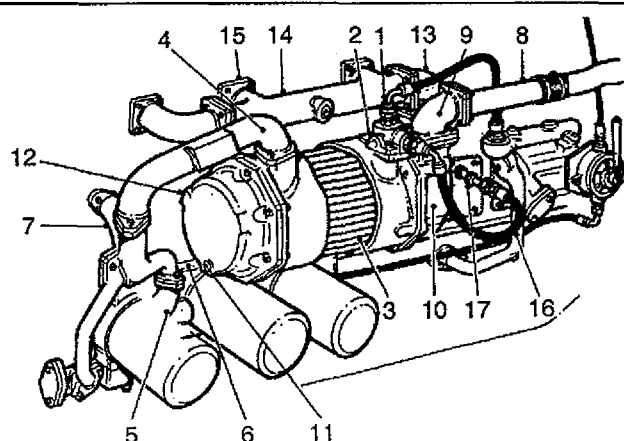

Fig. 4L
Lubricating oil is drawn from the engine sump by a lobe rotor pump mounted on the suspension plate on the 'A' bank side of the engine and driven from the gear train. An adjustable relief valve built into the pump, together with a supplementary pre-set relief valve mounted on one of the crankcase doors, control the oil system pressure. On leaving the pump the oil flow is split to supply each bank, that for the 'A' bank being supplied direct, whilst the supply to the 'B' bank is taken via a cross pipe through the sump. See Fig. 4L.
The arrangement of the oil cooler, filters and headers for 'B' bank is similar to that shown for 'A' bank in Fig. 4L.
Drain the cooling system, via the drain plugs (11) in the ends of the oil coolers (see Fig. 4L).
Removing the oil pipes (later engines) (see Fig. 4L)
Refitting the oil pipes ('A' bank, later engines) (See Fig. 4L)
Refitting the water pipes (See Fig. 4L)